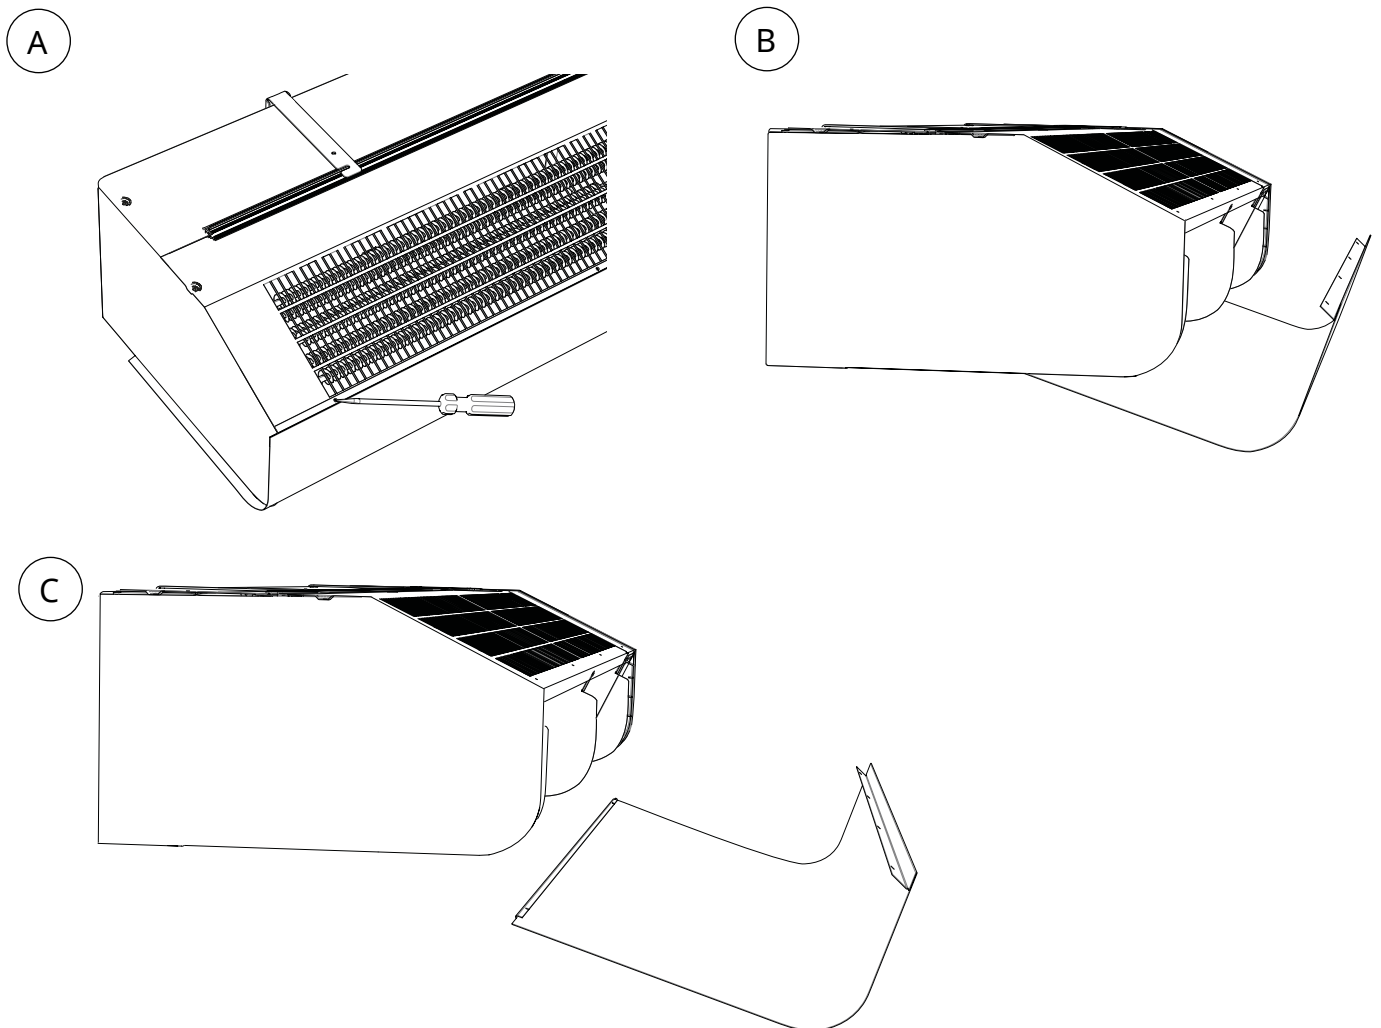

Fig.3: Open the unit.
2. The front hatch is removed by removing the screws on the top of the unit and then detach the bent edge at the bottom. (Fig.3)